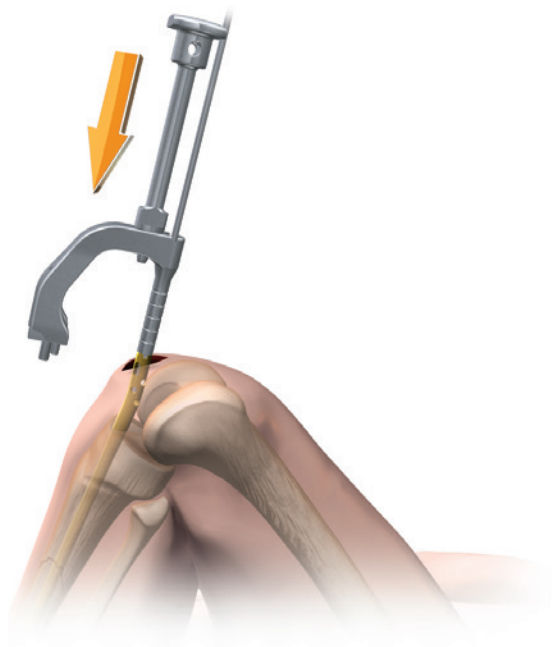

Figure 22
2. Attach the Cannulated Impactor-Medium (71675081) to the Drill Guide (Figure 22).
4. Use the Slotted Hammer (71674082) to tap and advance the nail over the guide rod to the desired depth (Figure 22).